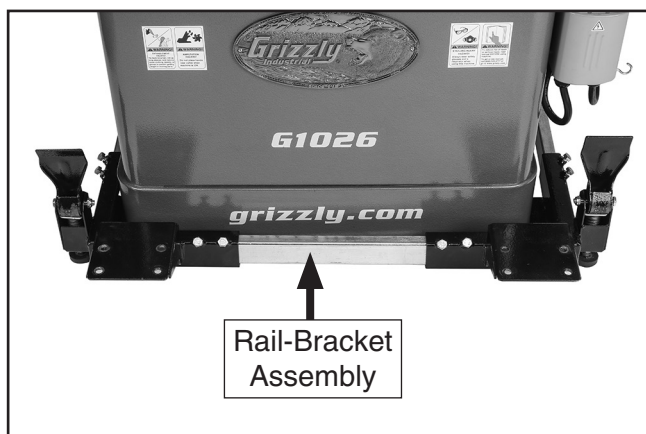

Figure 17. Rail-bracket assembly placed under front of machine.
- While an assistant lifts one side of the machine, slide rail-bracket assembly from **Step 5** under machine, as shown in **Figure 17**.